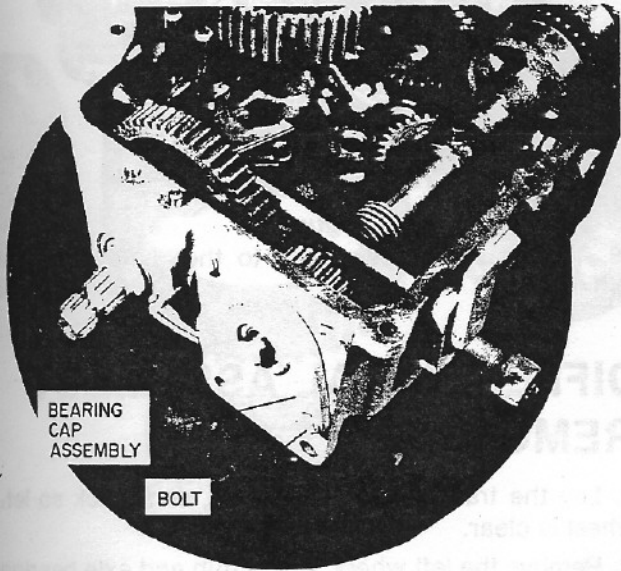

Figure 31
39. Remove the two bolts securing the bearing cap assembly to the transmission case. Remove the bearing cap assembly. See fig 31.